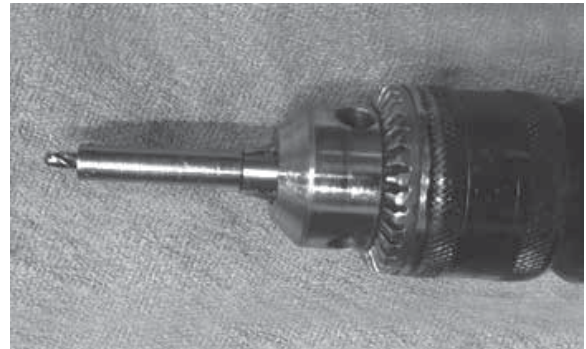

Figure 2. Drill bit guide
- i. Use a drill and a 9/64" drill bit to create a hole in the shaft seal. To avoid drilling too deep into the shaft seal and to help protect the shaft seal diameter if the drill bit wanders, insert the drill bit inside a 5/16" OD hollow tube leaving no more than 0.25" of the drill bit exposed at the end (Figure 2). To reduce drilled material from entering the pump, pack the flutes with grease. Drill the seal until the tube reaches the seal face.